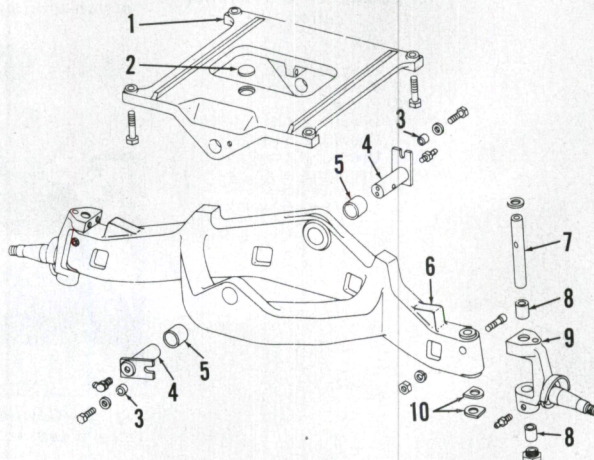

Fig. 2—Exploded view of adjustable front axle and pivot bracket assembly.
3. HOUSING AND PIVOT BRACKET. The pivot pin bushings (5-Fig. 2) should have an installed I.D. of 2.004-2.018 inches, with 2.011 in. nominal. Tighten pivot bracket to frame cap screws to 300 ft. lbs. torque, and pivot pin to housing cap screws to 85 ft. lbs.
4. SPINDLE AND BUSHINGS. The O.D. of knee bushing (7-Fig. 2) should be 2.189-2.190 inches. Check bore I.D. before installing bushing to make sure that it is not worn. Bore should measure 2.185 inches. Align grease fitting hole as bushing is installed, and installed I.D. of bushing should be 2.001-2.004 inches. End play of knuckle (10) is adjusted by thrust washers (9) and should be 0.005-0.045 inch. Spring pins prevent thrust washers from turning.